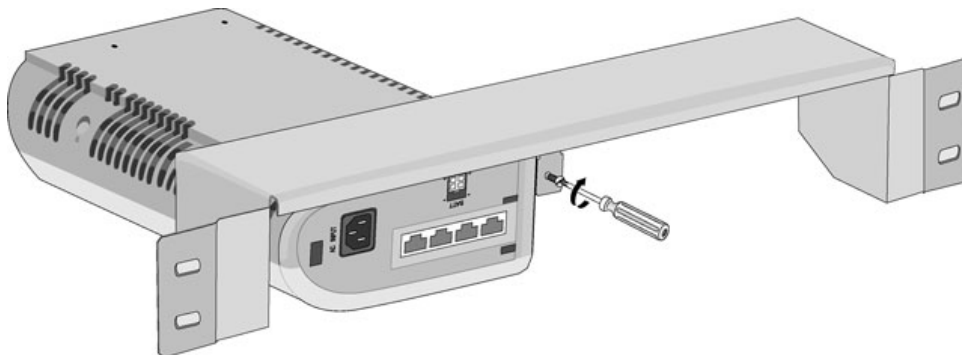

Figure 4.3.3.2 Tightening Rack bracket
3. To attach an expansion module to the rack, affix the bracket with the 4 screws provided (Figure 4.3.3.4).